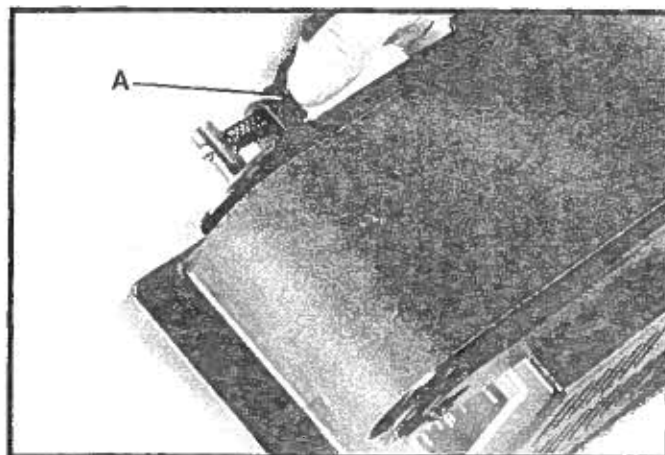

Fig. 24
2. If the sanding belt moves toward the disc, turn the tracking knob (A) Fig. 24, counterclockwise 1/4 turn.
3. If the sanding belt moves away from the disc, turn the tracking knob (A) Fig. 24, clockwise 1/4 turn.